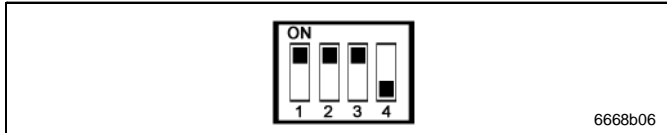

Fig. 26 DIP switch – configuration mode
- ➔ Set the DIP switches (see view Fig. 2, page 6) as shown in Fig. 26: